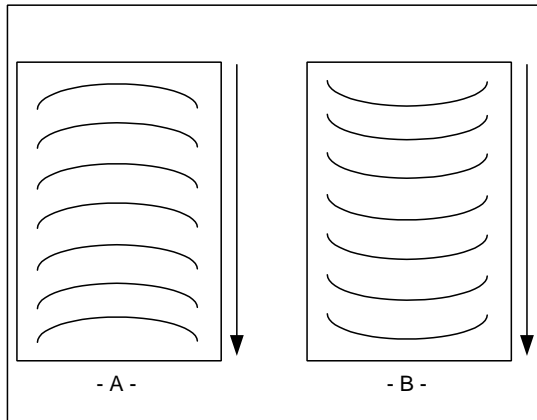

Fig. 24
1. "D" waves in the image (Fig. 24 A&B).
2. "D" waves in the laminate (Fig. 24 A&B).